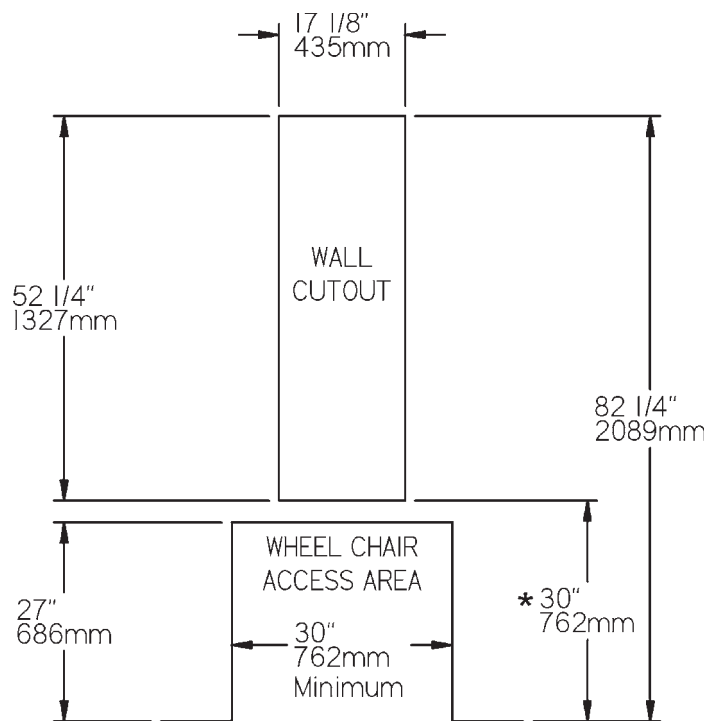

FIG. 3
1. At 30" above the finished floor, cut a rectangular wall opening 17-1/8" wide by 52-1/4" high. This is required to obtain a rim height of 34-1/2" and 36" bubbler spout height, which is in compliance with ANSI Standard A117.1 (See Fig. 3)